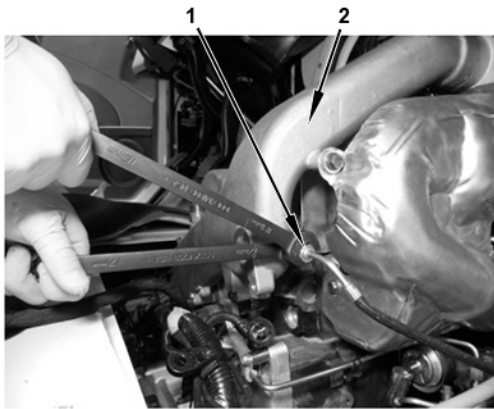

Figure 8 Coolant Manifold
11. Remove hydrocarbon injector (HCI) coolant supply tube nut (1) from coolant manifold (2) (Figure 8).